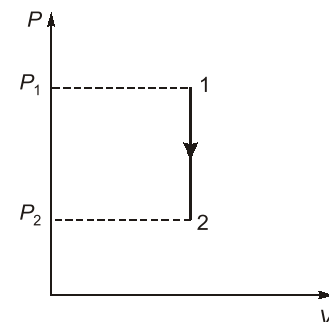

Figure 2.7 Constant Volume Process
- Constant Volume Process (isochoric or isometric process) (Fig. 2.7)